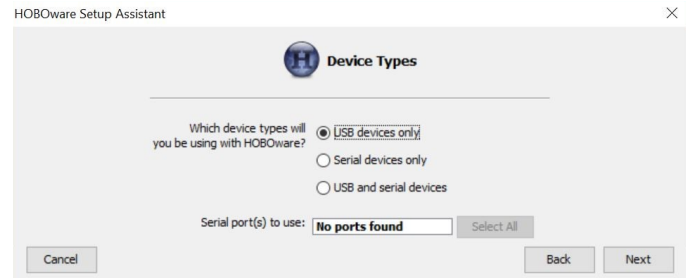

Figure 22. Device Types Window
12. A Device Types window (Fig. 22) will appear, select *USB devices only* and click NEXT.